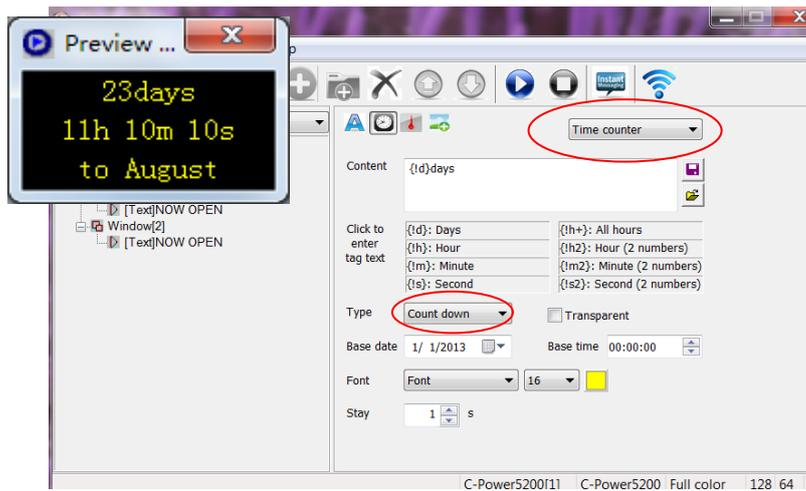
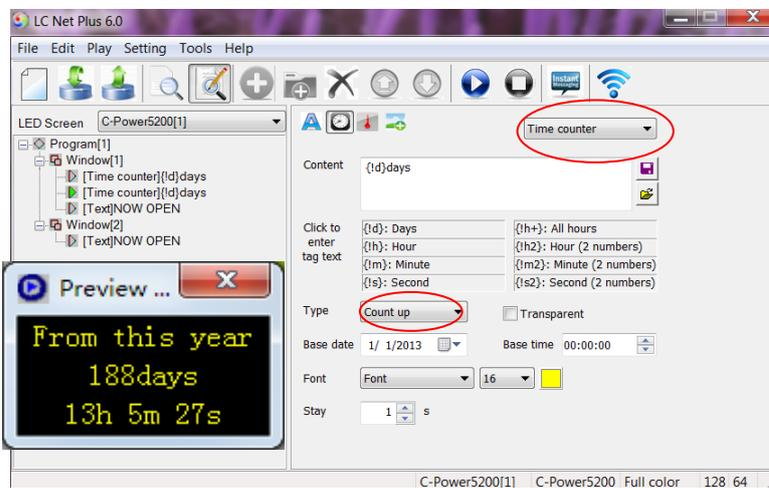

Figure27 Count down setting
Figure28 Count up setting
A. Content: Select the contents to be displayed, by clicking the variable tag text listed below the content input field. The controller will calculate the exact time, variable and value to be display. For example, click `{!d}Days`, the controller will calculate and display the exact number of days between the current time and the **Base date** and **Base time**, as shown in Figure27 and Figure28.